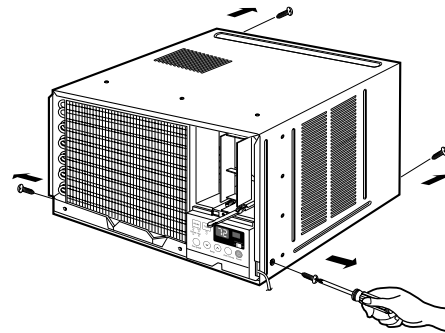

Figure 2
2. Remove the two screws which fasten the cabinet at back. (See Fig. 2)